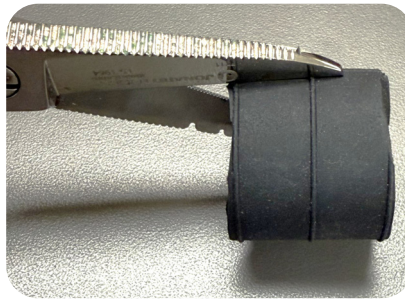

Figure 10
2. Cut the appropriate section from the graduated tube. (Figure 10)
3. Make a slit in the newly-cut grommet piece so it can be wrapped around the cable. (Figure 10)